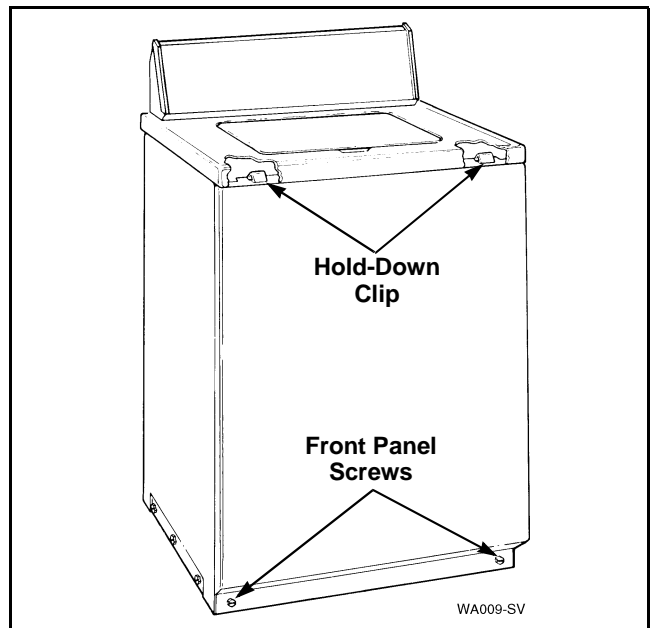

Figure 21
Refer to *Figure 21*.
- a. Remove two screws from bottom edge of front panel. Refer to *Figure 21*.
- b. Pull bottom of panel away from washer until hold-down clips (located on top flange of panel) disengage from slots in cabinet top. Refer to *Figure 21*.